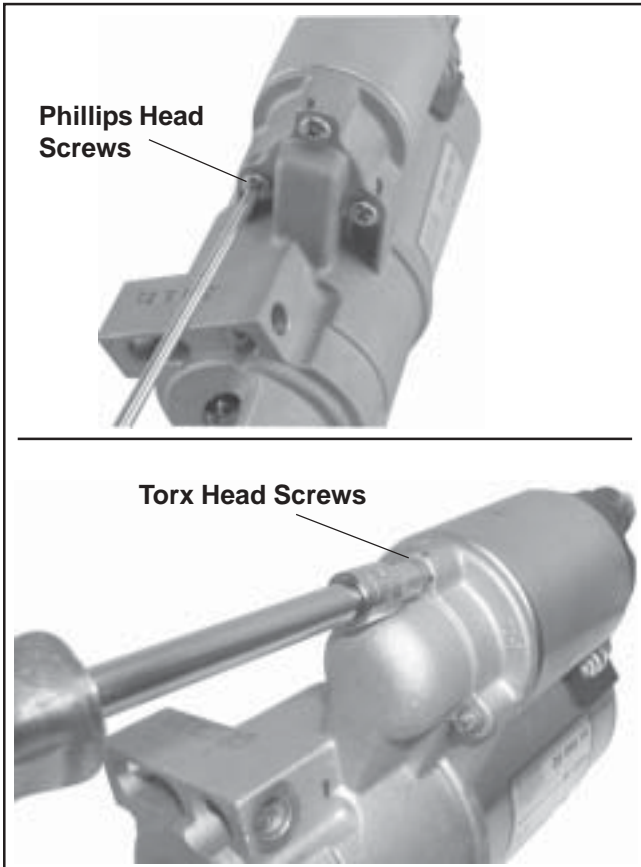

Figure 8-45. Removing Solenoid Screws.
2. Remove the three screws securing the solenoid to the starter. See Figure 8-45.